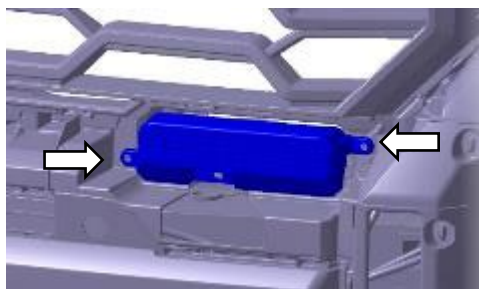

Fig. 5-11
- (6) Remove and discard the fog light assemblies (Fig. 5-11). Retain screws.